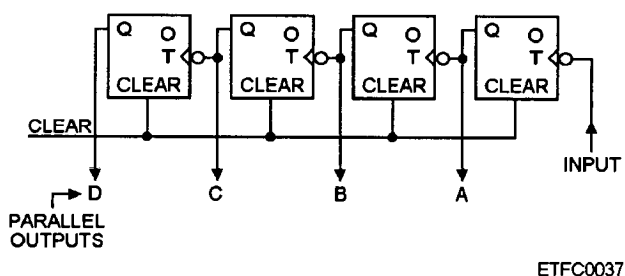

Figure 4-13.—Example of an asynchronous operation with a flip-flop.
- Asynchronous operations —This term describes the operation of logic functions that are **not** controlled by the occurrence of a specific timing pulse. Refer to figure 4-13.